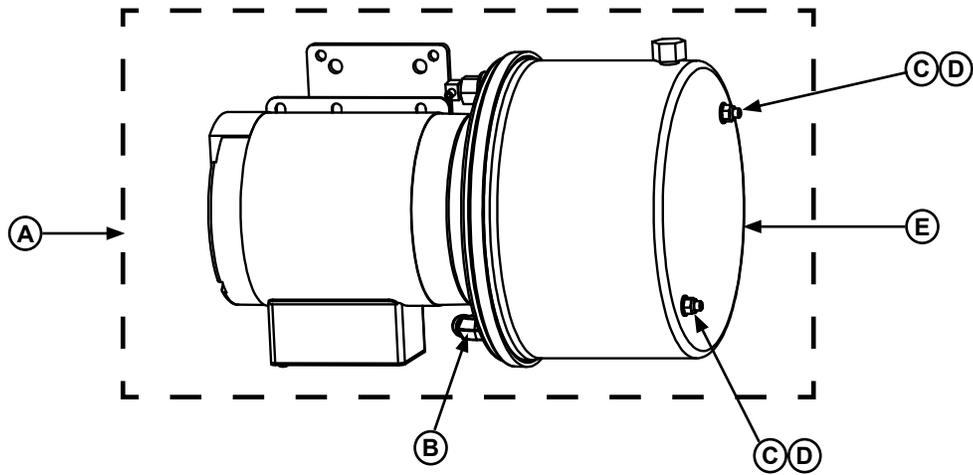
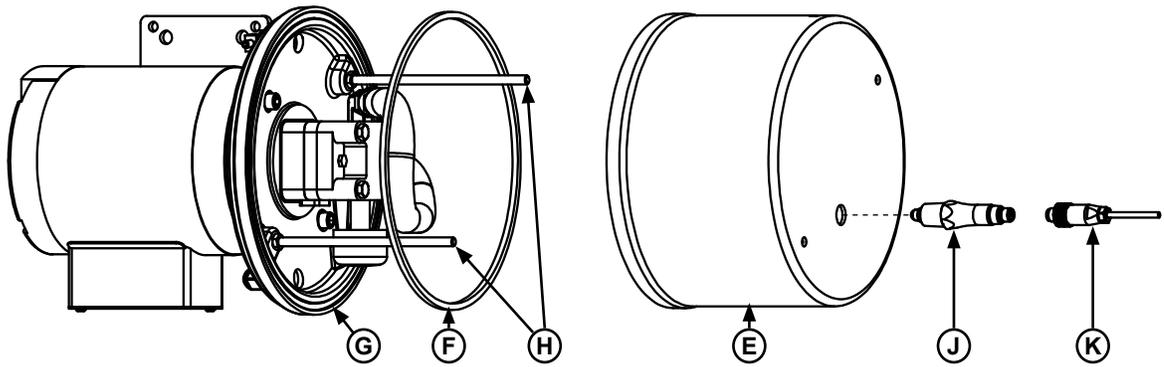
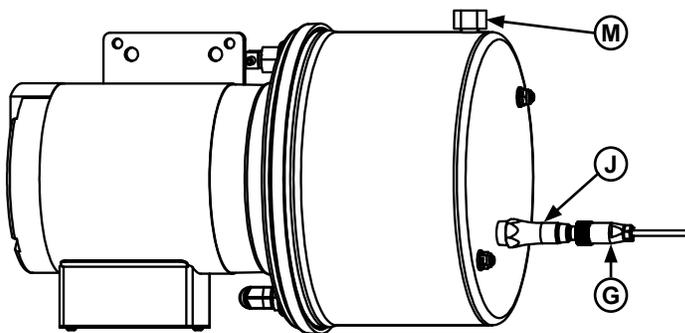

Figure 29
Figure 30
Figure 31
4. Drain hydraulic fluid from the powerpack (A). See **Figure 29**.
- With a pan (or similar) to catch hydraulic oil positioned under the return fitting (B), remove the hose connected to the return fitting.
5. When fluid is drained, remove reservoir (E) by removing lock nuts (C) and thread seals (D).
- Verify that the old reservoir O-ring (F) is removed with the reservoir. See **Figure 30**. A new O-ring and thread seals are included with the 7155-0002 kit.
- Apply thread seal tape to threads on sensor (J).
- Insert sensor (J) into tapped hole in new reservoir. **Do not over-tighten sensor**. Tighten until snug.
7. Place new O-ring (F) into depression on drive plate (G). See **Figure 30**.
8. With the new o-ring and sensor in place, mount the reservoir (E) on the drive plate (G). Align the mounting holes on the reservoir with the tie rods (H).
**Note:** Make sure the breather hole is facing up and the sensor is near the bottom. See **Figure 31**.
9. With the tie rods (H) exposed through the reservoir, position the thread seals (D) on the tie rods.
10. Verify the reservoir (E) is evenly seated on the o-ring (F). Then install the lock nuts (C) on the tie rods. Tighten the lock nuts to 35-40 in/ lbs. **Do not over-tighten**.
11. Add **1 gallon** of hydraulic fluid to the reservoir and verify that there are no leaks. With residual fluid in the hydraulic system, 1 gallon will allow the unit to raise off the maintenance prop and lower to the stored position. Install Breather Cap (M).
1. Attach cable (K) to sensor (J). See **Figure 31**.
2. The 5M cable (K) should be long enough to reach the iDock controller in most applications. Pull the cable through the existing pit junction box/ conduit to the iDock controller.